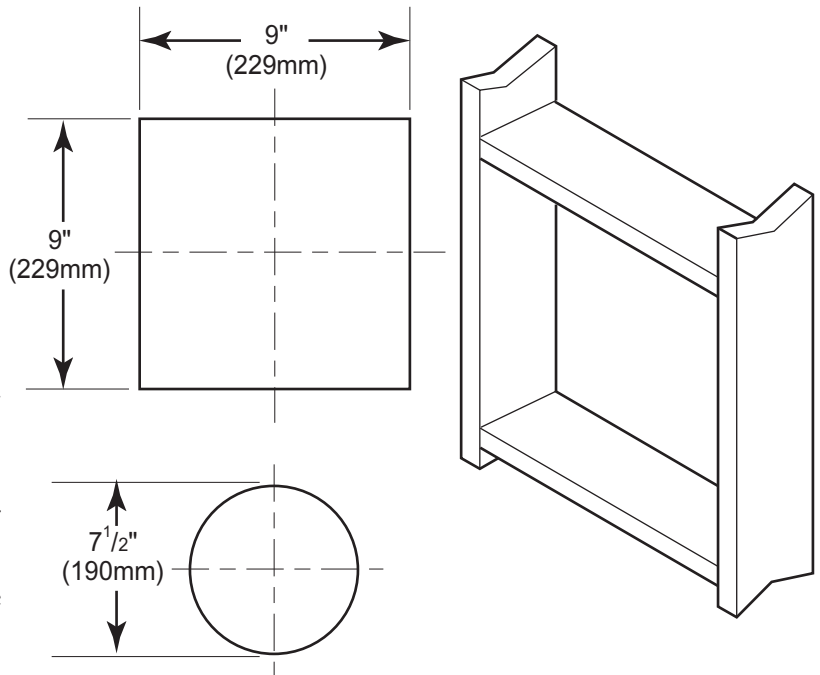

Figure 12 - Vent Opening Requirements
Combustible Walls: Cut a 9 "H x 9 " W (229 mm x 229 mm) hole through the exterior wall and frame as shown. See Figure 12.
Cut a 9"x9" (229mm X 229mm) rectangle hole through combustible exterior wall 7½" (190 mm) diameter hole if noncombustible). Frame as necessary. Allow ¼" minimum rise per foot. See Figure 12.
1. Establish vent hole through the wall. *See Figure 12, page 17.*